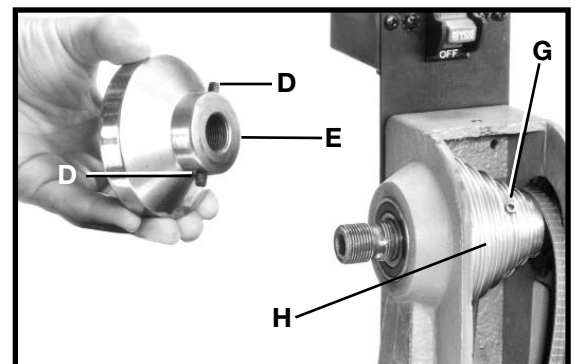

Fig. 28
5. Loosen the set screw (G) Fig. 28 on the spindle pulley (H).